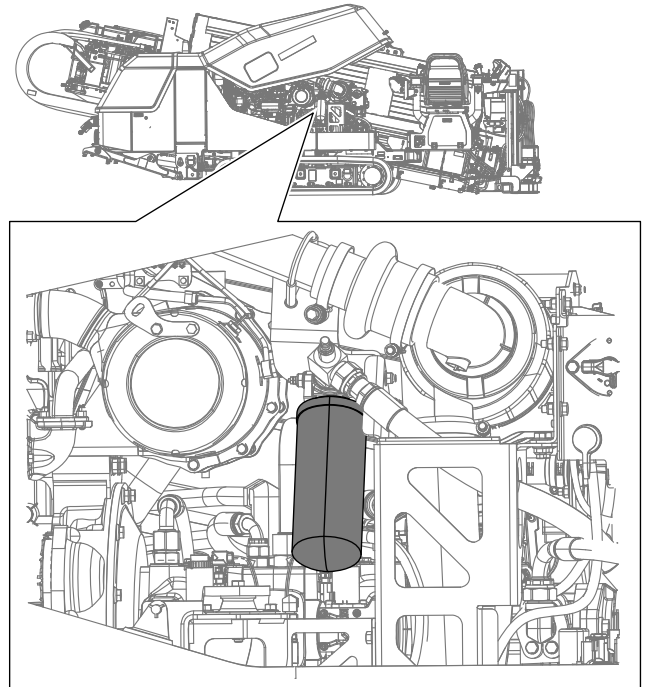

Figure 114
4. Using a filter wrench, remove the hydraulic-charge filter (Figure 114).